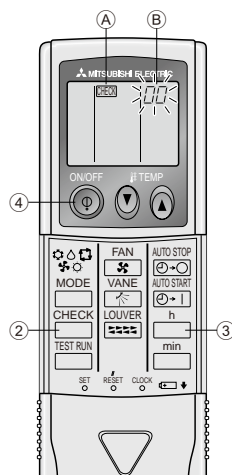

Fig. 7-4
7.3.2. Wireless remote controller (Fig. 7-4)
- ① Turn on the power.
- ② Press the button twice. (Start this operation from the status of remote controller display turned off.)